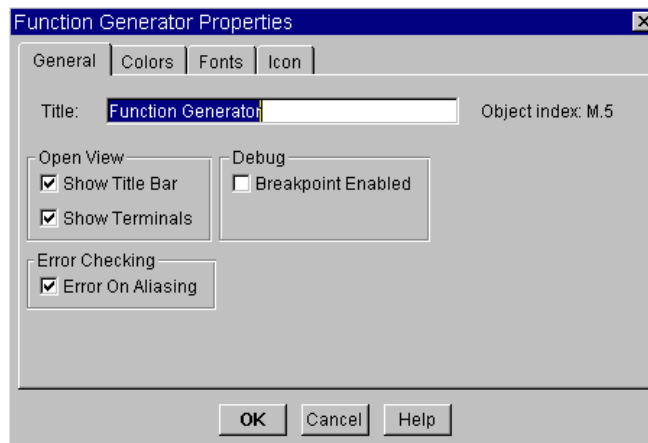

Figure 1-12. Changing the Title of an Object
1. Open the object menu and select *Properties...* A Properties dialog box appears with the current title highlighted, as shown in Figure 1-12.